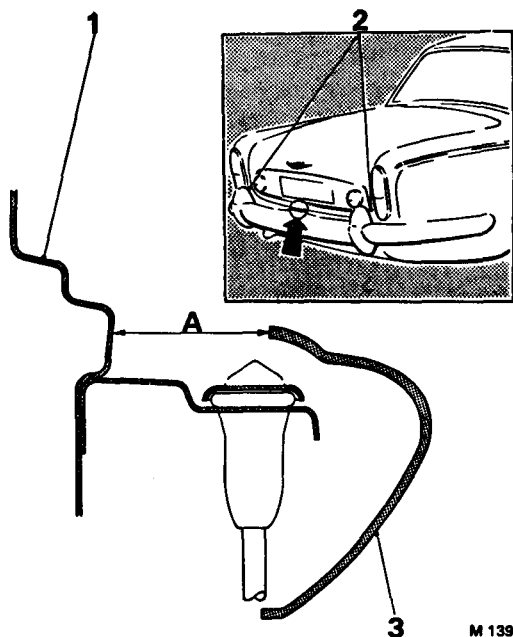

FIG. S128 REAR BUMPER TO BODY CLEARANCES (4-Door Saloon Illustrated)
3. Check that the gap between the body and the front edge of the bumper is between 2.328 in. and 2.453 in. (5,913 cm. and 6,230 cm.) midway along the bumper as shown in Figure S128.